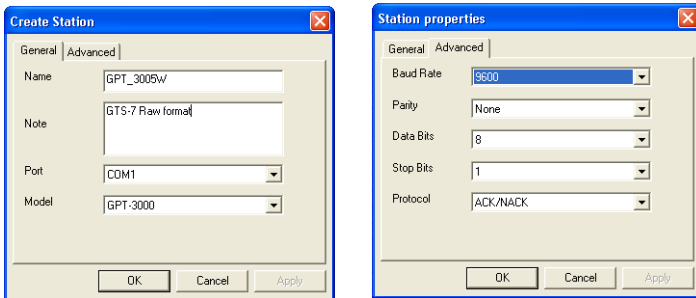

Figure 8-19. Topcon Total Station Properties
2. In the *General* tab of the **Create Station** dialog box, enter the following information and click **OK** (Figure 8-19).
3. In the *Advanced* tab of the **Create Station** dialog box, enter the baud rate, parity, data bits, stop bits, and protocol used for communication with the TS (Figure 8-19).